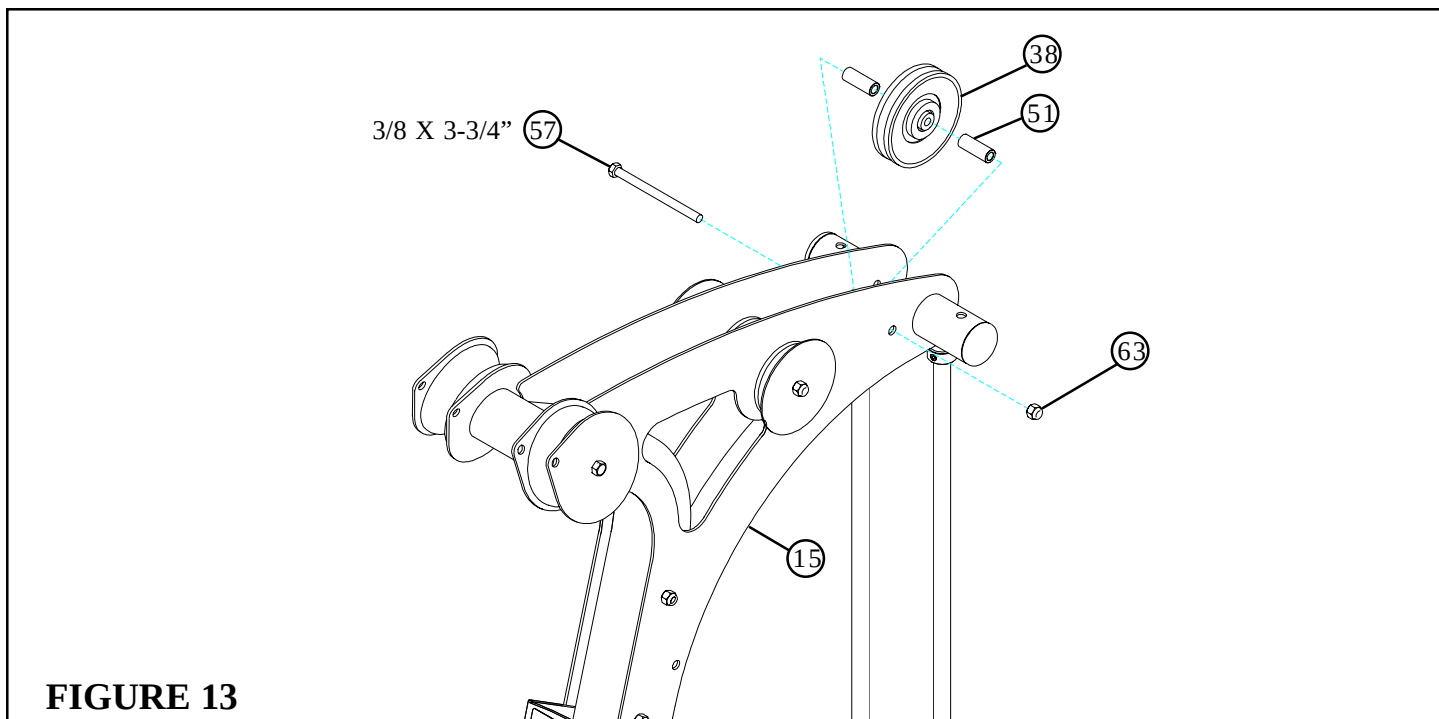

FIGURE 13
- Assemble one 4-1/2" PULLEY (38) to the BOOM PLATES (14 & 15) using one 3/8 X 3-3/4" BOLT (57), two 3/8 X 1" SPACERS (51) and one 3/8" LOCK NUT (63). See FIGURE 13.